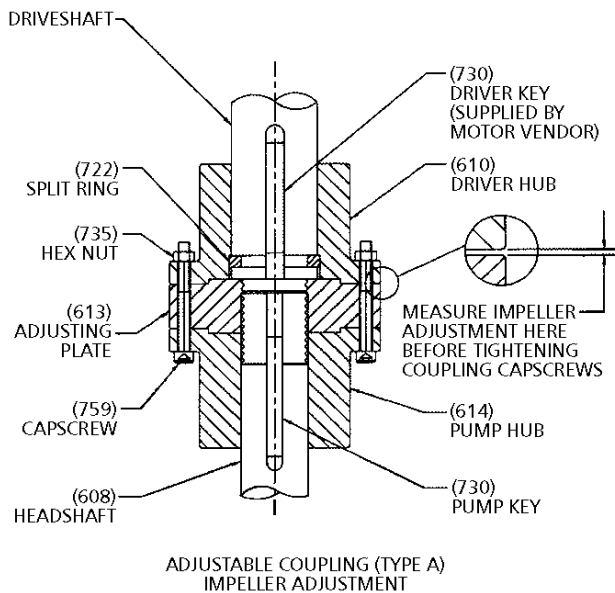

Figure 11
Impeller adjustment is identical for all motors and right angle gear drives. Adjustment is accomplished by turning the adjusting plate (613). (See figure 11 or 12). The correct adjustment is listed on the Outline Drawing for the specific unit. **If the pump has thrust pot, do not adjust the impeller position until the thrust has been installed and adjust the impeller position by using the adjust nut on the thrust pot.**
For enclosed impellers obtain the clearance between the adjusting plate and driver hub or spacer as specified on the outline drawing. See Figure 11 or 12.